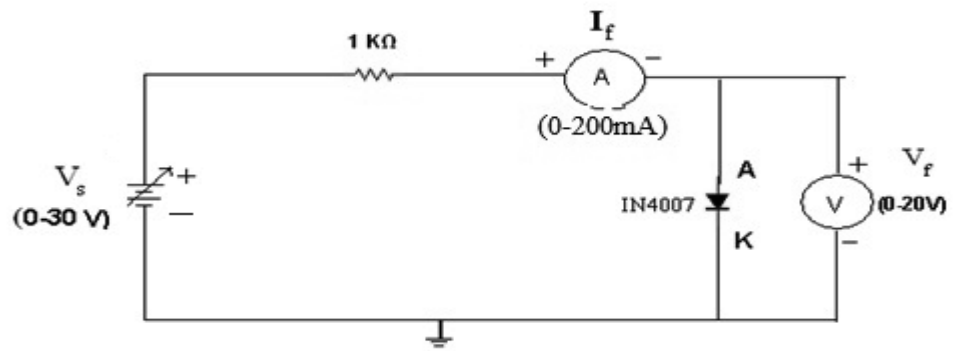

Figure 2: Circuit diagram of diode in forward bias
1. Connect the electrical circuit as in figure 2.